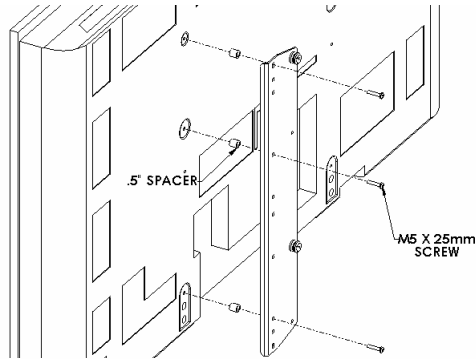
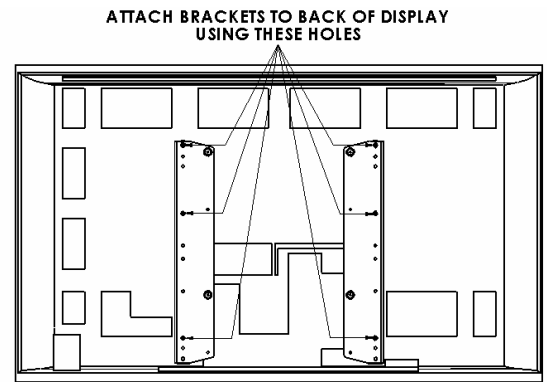

Figure 10
Figure 11
6. Place .5" nylon spacers on mounting holes, aligning hole pattern on brackets with pattern on back of the display (see Figure 10 & Figure 11).